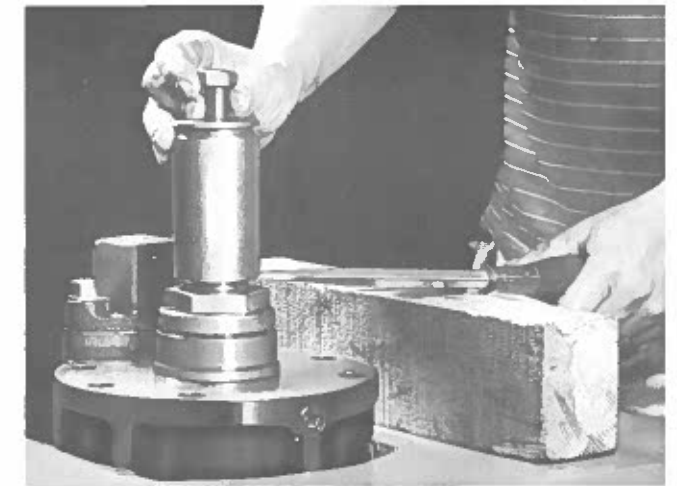

Figure 8 — Removing Seal Baffle Closure Cap
8. Refer to Figure 8. Remove cap screw (806-4) from end of motor shaft.
9. Gently pry off seal baffle closure cap (112) with its gasket (744-5) and ring (200). The gasket and ring need not be removed from the seal baffle closure cap.